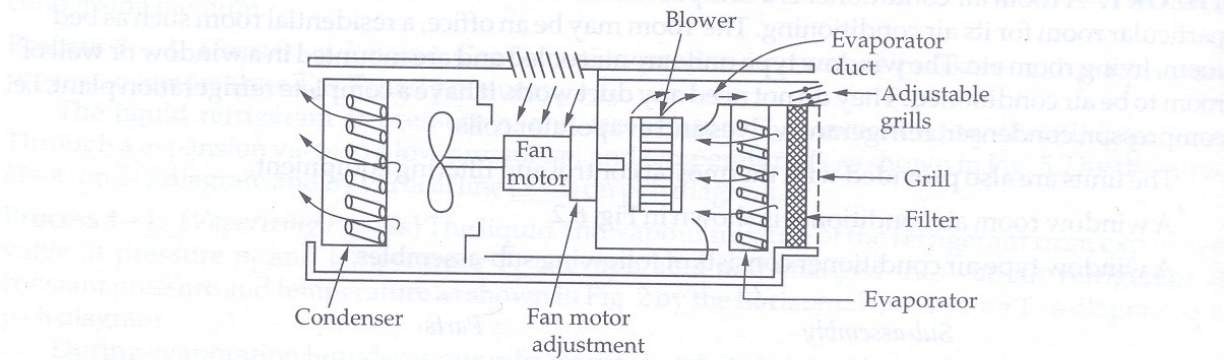

Fig. 6.1
- A line diagram of air circuit is shown in Fig. 6.1.